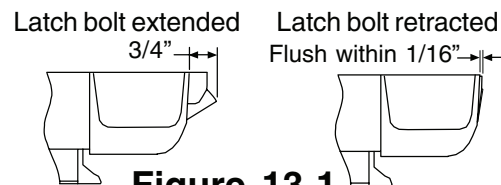

Figure 13-1
2. Depress pushbar and make sure latch bolt(s) retracts and extends fully (see Figure 13-1).
4. Check latch bolt(s) for full retraction (must clear strike, see Figure 13-1).
5. Release solenoid and check latch bolt extension (see Figure 13-1).